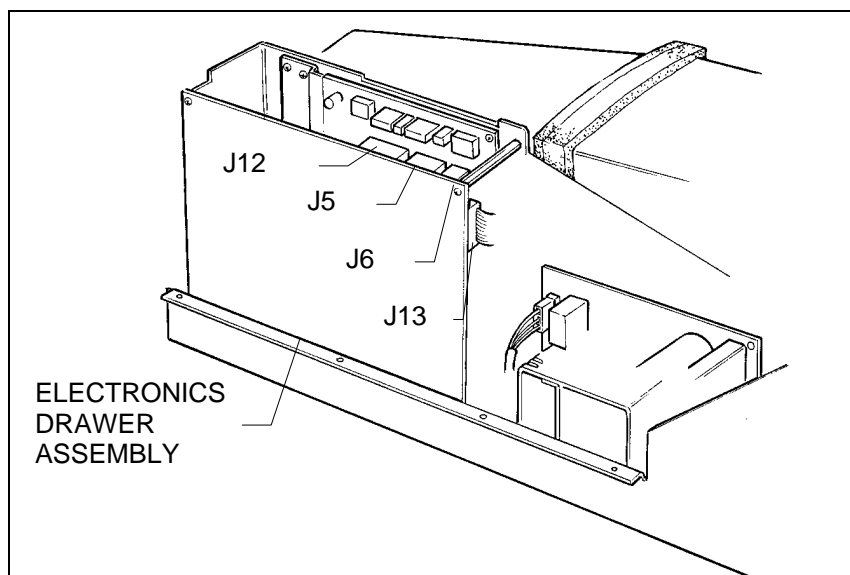

Figure 6-17. Removal of electronics drawer
2. Disconnect the following connectors from the PC boards: (Figure 6-17)